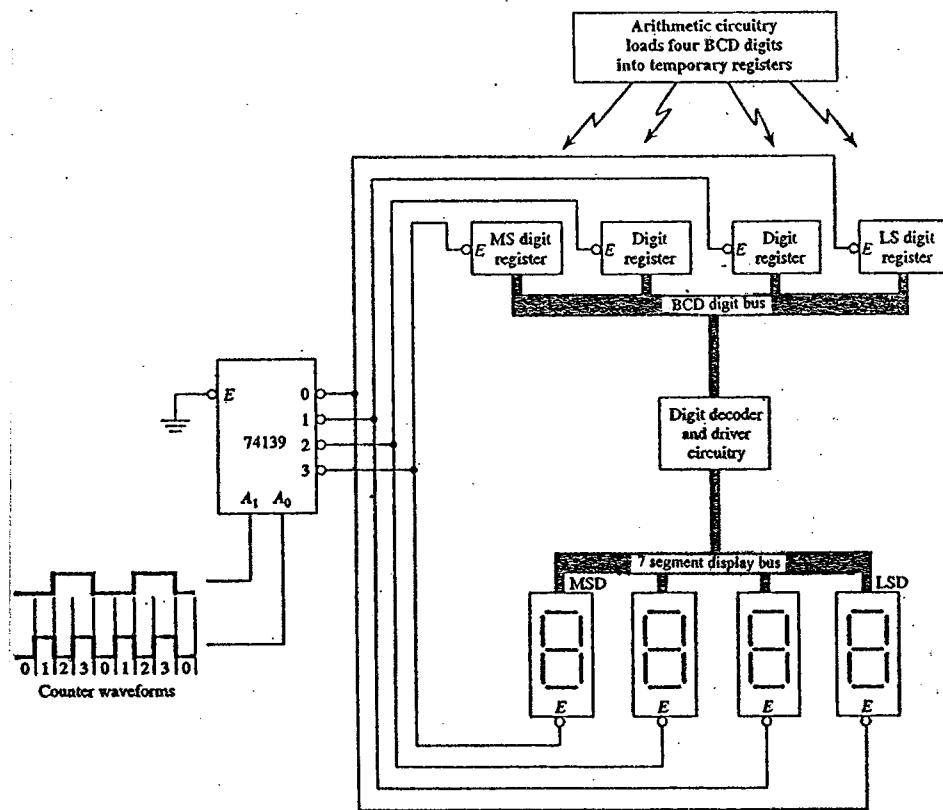

Figure 2
- (c) What are the output levels at  $\bar{0}$ ,  $\bar{1}$ ,  $\bar{2}$  and  $\bar{3}$  of the 74139 demultiplexer in Figure 2 when the circuit is displaying the number  $3_{10}$  in the Least Significant Digit (LSD) of the 7-segment display?